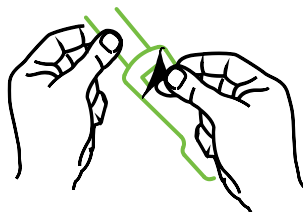

Figure 10-10 Removing protective liner from sensor
- 2 Remove and discard the protective liner from the sensor (figure 10-10).